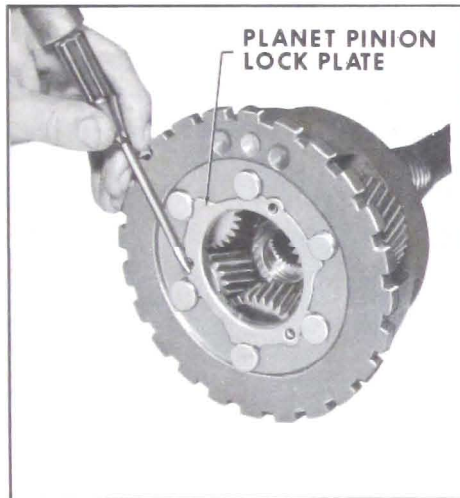

Figure 5-282
12. Install planet pinion lock plate. Rotate plate so extended portions align with slots in planet pinion shafts, and three (3) attaching screw holes. See Figure 5-282.